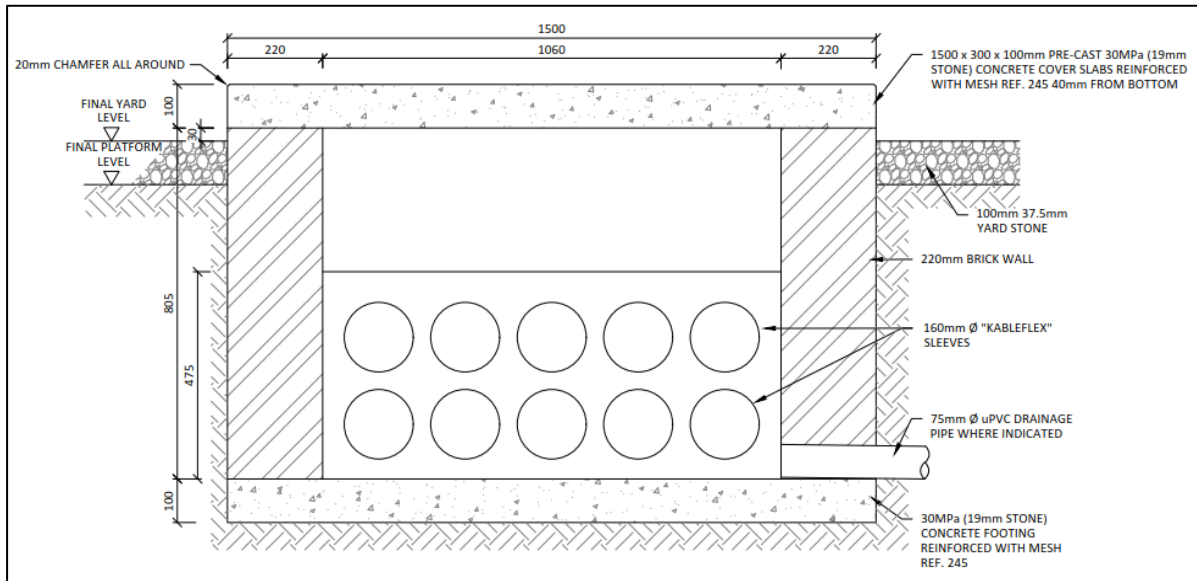

Figure 52: Typical Cable Sleeve Transition Detail (2)
- Figure 52: Typical cable sleeve transition detail (2).